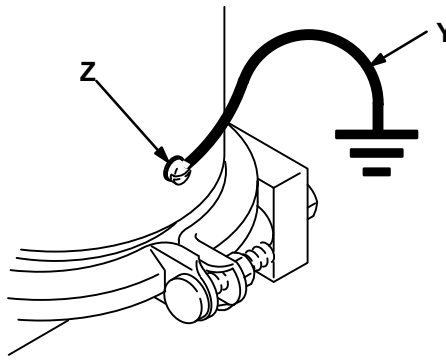

Fig. 1
- *Surge suppressor:* Secure a ground wire (Y) to the surge suppressor with the grounding screw (Z) located on the side of the housing. See Fig. 1. Connect the clamp end of the ground wire to a true earth ground. To order a ground wire and clamp, order Part No. 208950.